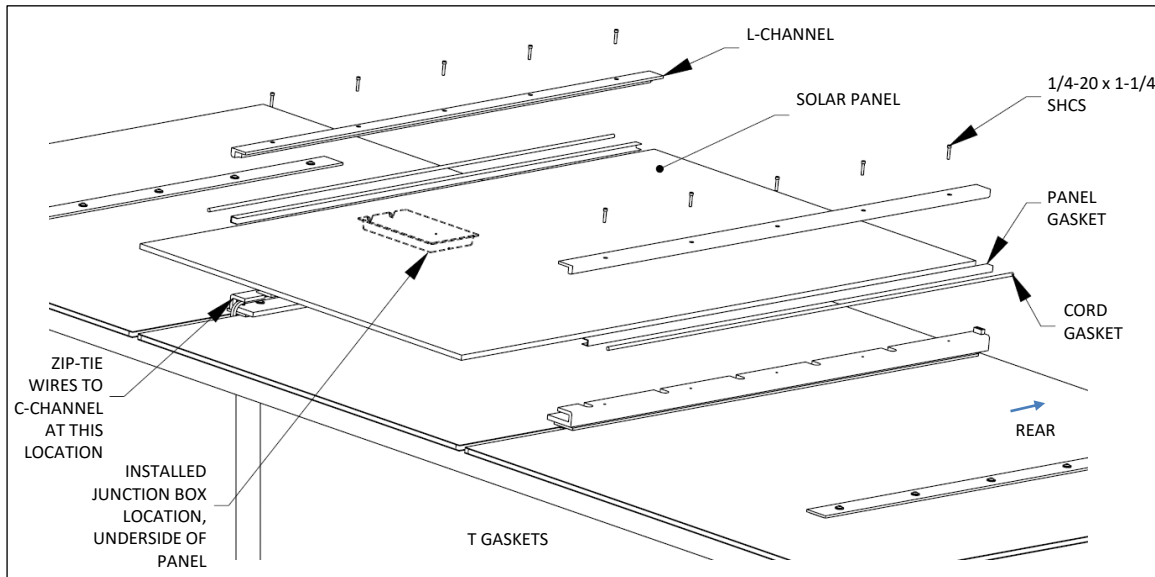

Fig. D6 – solar panel installation
11. Using proper glass handling techniques, set solar panel in position on top of C-channels in center of roof. Route solar panel wires inside of C-channel and zip-tie to end as shown in Fig. D6. Connect wires to connectors that are factory-installed in front horizontal beam.
13. Install L-channels as shown in Fig. D6, placing on top of C-channels and compressing cord gaskets until mounting holes align. Use hardware pack #62946.